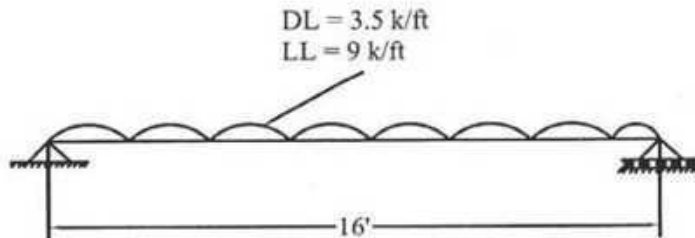

Fig 1
1. a) Write down the basic design concepts of USD and WSD methods of RCC design. (3)
- b) The following beam is subjected to a DL of 3.5 k/ft (including beam self wt.) and a LL of 9 k/ft over its entire span (Fig 1). Design the beam with  $\rho = 0.0120$ ,  $f_y = 60000$  psi and  $f'_c = 4000$  psi. Also draw the final section with the reinforcement and dimensions. (7)